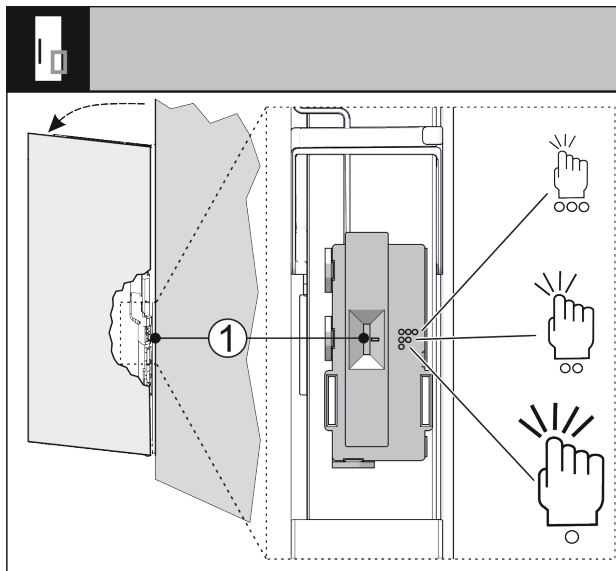

Fig. 32
You can adjust the sensitivity of the knocking signal with a switch Fig. 32 (1). The switch is on the hinge side on the lower third of the door.
- ▶ Slide the switch Fig. 32 (1) to the desired switch position.